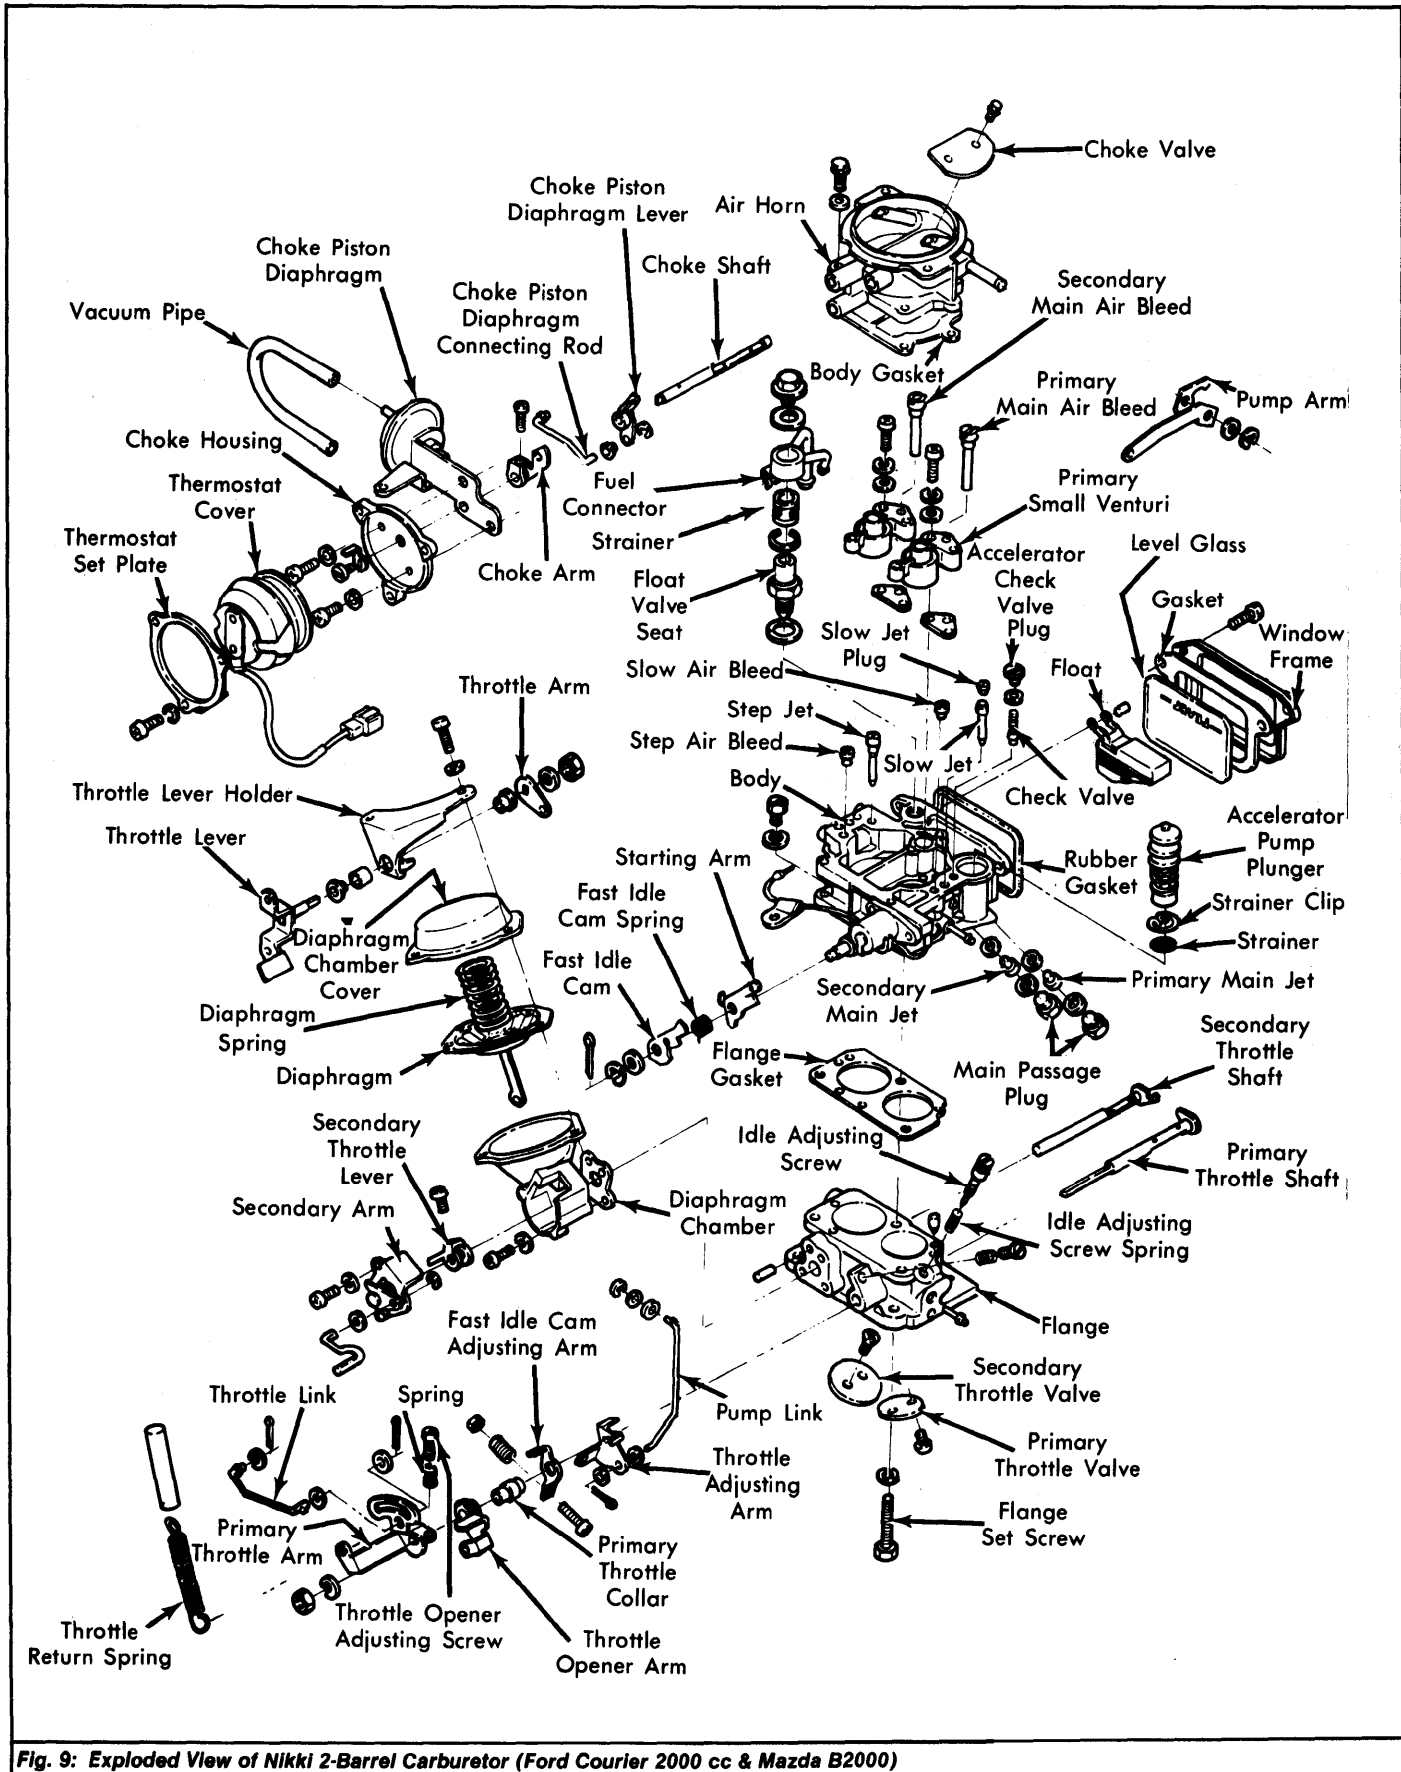

Fig. 9: Exploded View of Nikki 2-Barrel Carburetor (Ford Courier 2000 cc & Mazda B2000)
1) Remove carburetor and cover intake manifold port with clean shop towel to prevent dust and dirt from entering. Disconnect accelerator pump rod from lever and remove lever from main body. See Fig. 9.